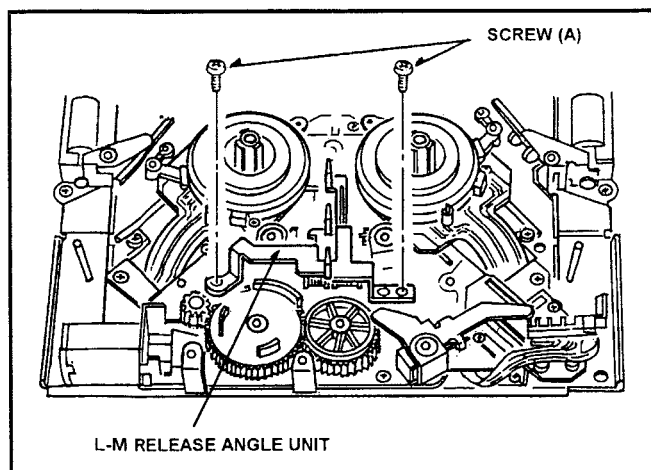

Fig. 6-21-1 Removal of L-M Release Angle Unit
3. Unscrew the 2 screws (A) and remove the L-M Release Angle Unit as shown in Figure 6-21-1.